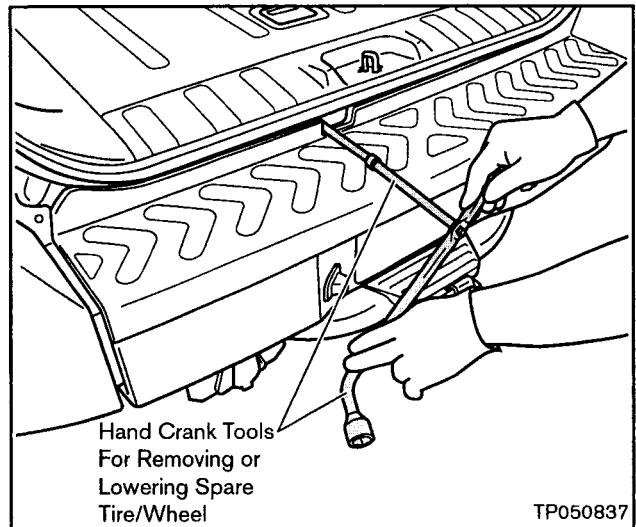

Figure B2
2. Remove or lower the Spare Tire/Wheel using the Hand Crank tools from the tool kit (see Figure B2).